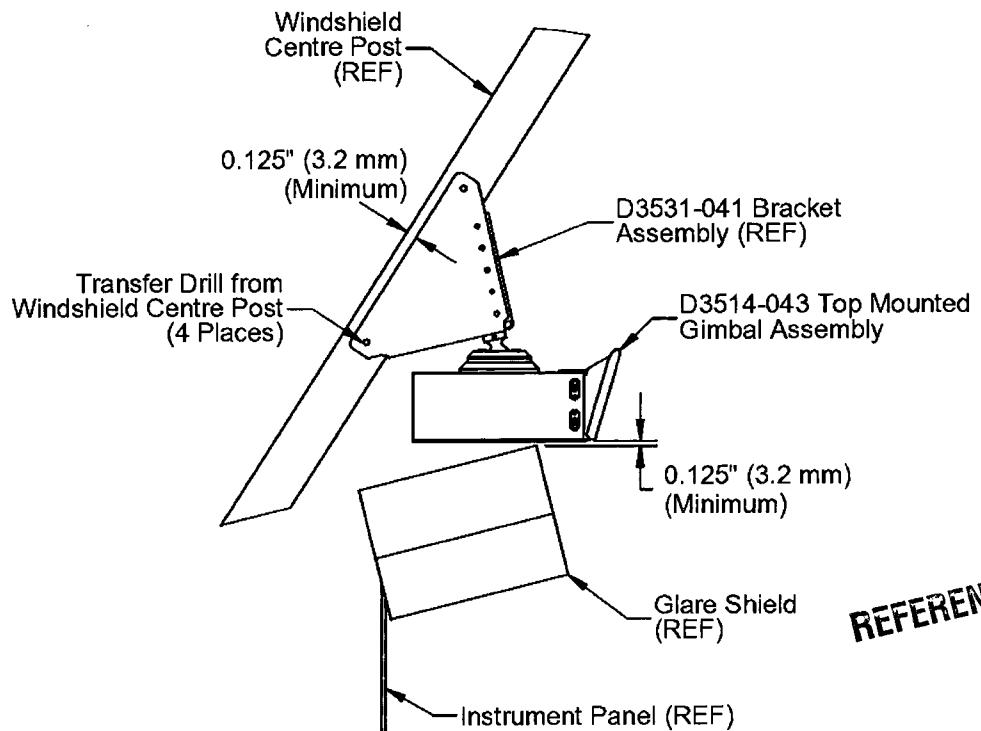

Figure 3.3.1 – Figure Shows the Position Restrictions of the Installation (Detail C from Figure 1.2)
3.3.2 Locate the D3514-043 Top Mounted Gimbal Assembly into position on the centre post of the front windshield as shown in *Figure 3.3.1* so that at least qty(4) holes from existing nutplates in the windshield centre post are covered by the D3531-041 Bracket Assembly. Install the D3514-043 Top Mounted Gimbal Assembly as low as possible as shown in *Figure 3.3.1*, ensuring there is a minimum hole-edge distance of 0.25" (6.4 mm) and a minimum clearance to the glare shield and window of 0.125" (3.2 mm). Transfer drill qty(4) #11 (\varnothing 0.191") holes through the D3531-041 Bracket Assembly from the centre post. Deburr and touch up holes per the Aircraft Maintenance Manual.